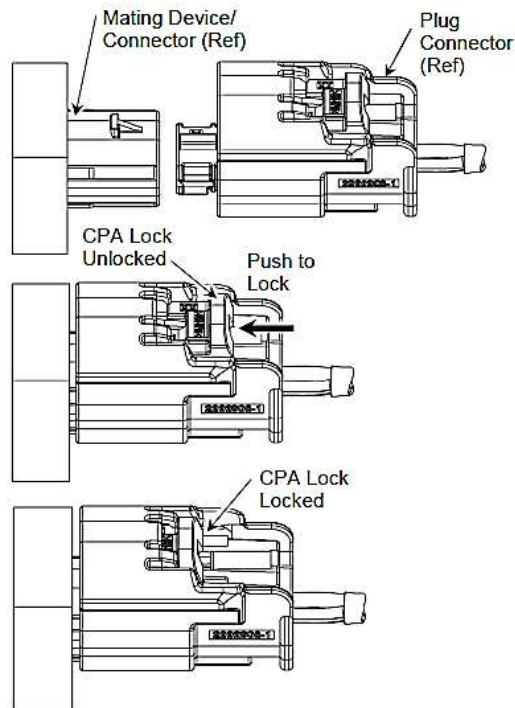

Figure 14
- i. Align the Plug connector with the mating connector so that the connector mating latch faces the mating latch of the mating connector, and the key slot faces the key of the mating connector. Then, push the connectors together. Refer to Figure 14.
- ii. If using the CPA lock, push the CPA forward until there is an audible and tactile “click”; locking and mating the connector together. See Figure 14.